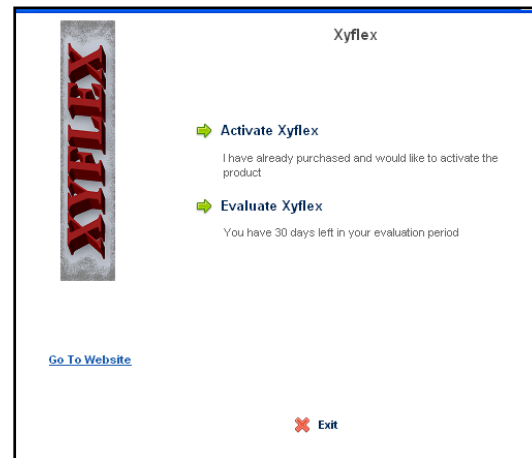

Figure 9. Options for activating XyFlex™ software.
2. When XyFlex™ activation screen opens up, select either *ACTIVATE XYFLEX* or *EVALUATE XYFLEX* (Fig. 9).